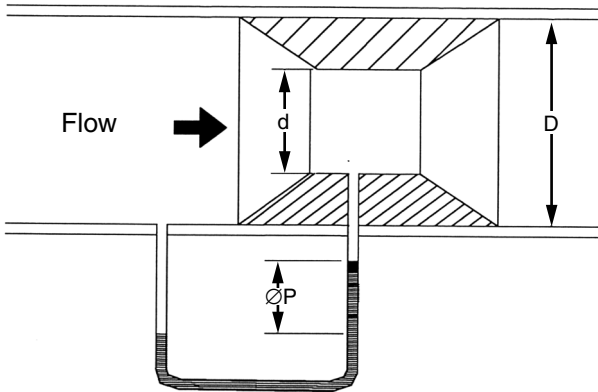

FIGURE V-2 Venturi meter (flow measurement).
**Venturi** A flow-measuring device. A **venturi flume** is an open flume, used to measure flow, with a constriction that causes a drop in the hydraulic gradeline. *See also* Parshall flume. A **venturi meter** is an instrument for measuring fluid flow in closed conduits; consists of a **venturi tube** (a narrowed section tapering to the conduit diameter at each end) and a flow- or pressure-registering device. Velocity increases and pressure decreases in the throat section. Discharge  $Q$  is estimated from the pressure head differential  $\Delta p$  indicated by a manometer, the discharge coefficient  $K$ , the conduit diameter  $D$ , the gravitational acceleration  $g$ , the density  $\gamma'$  of the manometer fluid, the density  $\gamma$  of the fluid measured, and the ratio  $r = D/d$  of the conduit diameter  $D$  to the throat diameter  $d$ . *See* Figure V-2. Flow through a venturi meter is similar to flow through an orifice plate, but with a higher discharge coefficient.